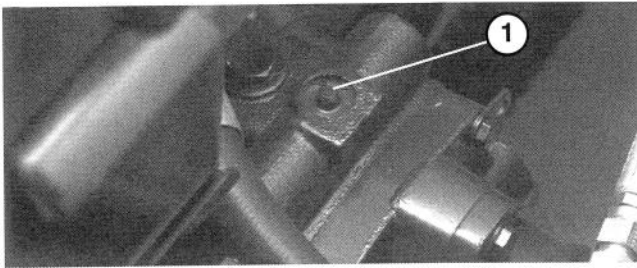

Figure 22
1. By-pass valve is located on top of variable displacement pump (Fig. 22). Rotate the valve 90°, in either direction, to open and allow oil to by-pass internally. Because fluid is by-passed, the machine can be moved – slowly – without damaging the transmission.